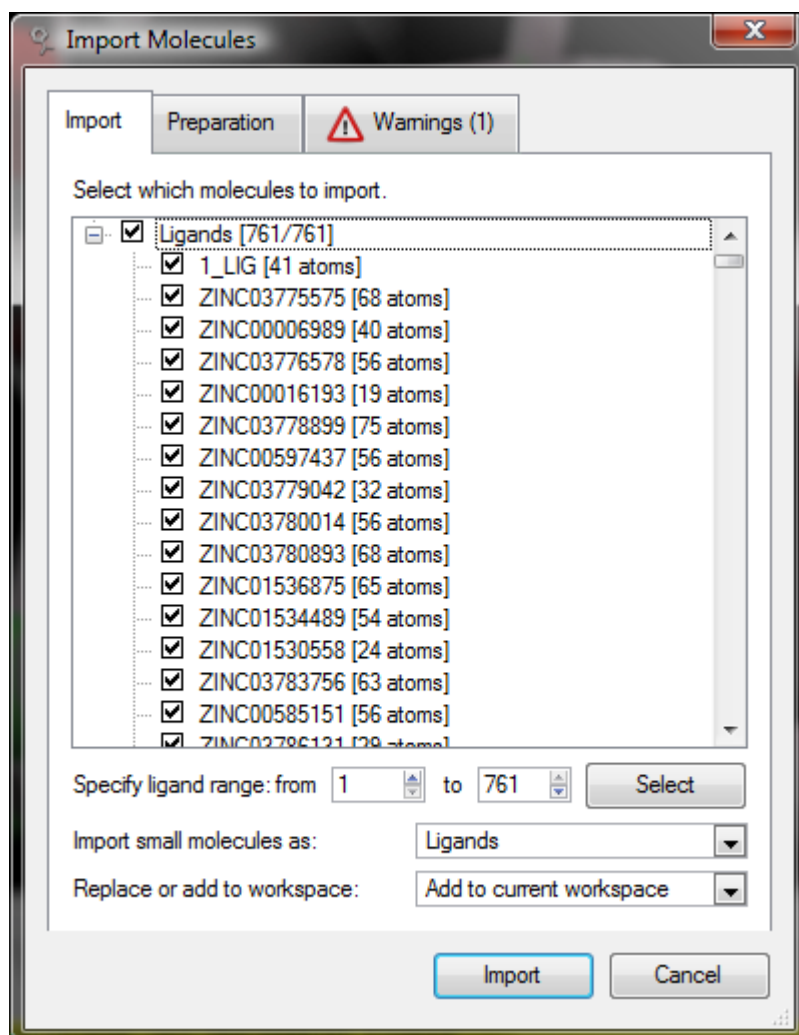

Figure 52: Import Molecules dialog.
From the **Import Molecules** dialog shown in Figure 52, it is possible to select which molecules to import, prepare molecules, and inspect warnings found during parsing of the imported file.
*Notice:* If more than 10 ligands are present in the file (typically SDF or Mol2 files), a subset of the ligands can be selected for import using the **Specify ligand range** option (see Figure 52). Since it is computationally slow to display a large number of molecules (e.g. thousands of compounds), ligands